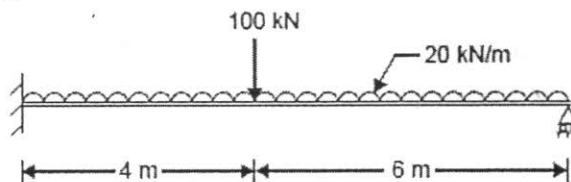

Fig. Q9.
9. Determine the consistent nodal vector due to loads acting on the beam shown in Fig. Q9